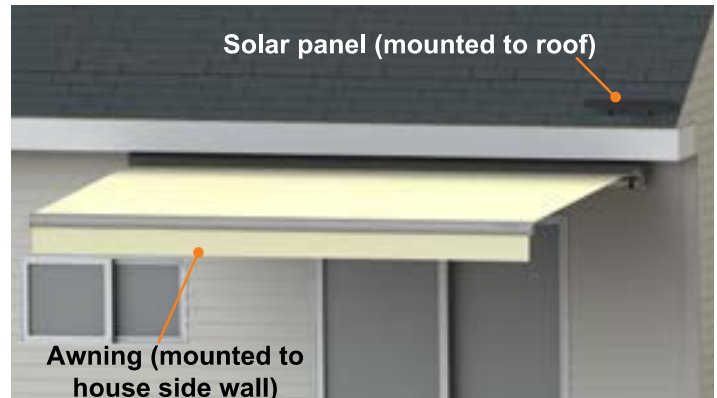
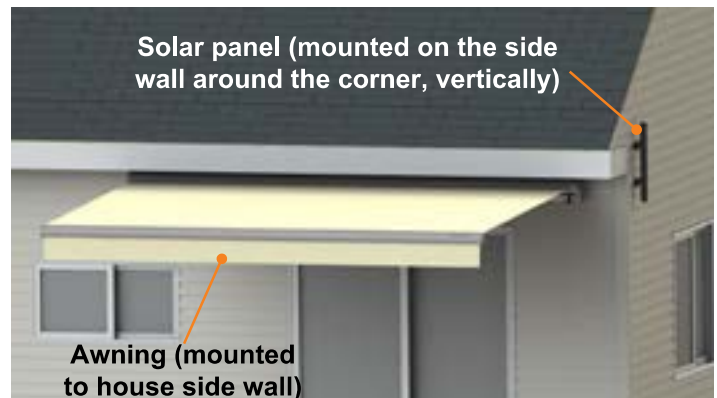

Fig.1
Fig.2
- The Lumina Awning is powered by a remotely mounted solar panel. This panel should receive as much sunlight as possible to power the awning. It must be mounted in such a way that it is above the awning and not covered by it, and not in shade of any kind. Some variation to actual mounting surface may be needed depending on the extenuating circumstances of the install, such as mounting the solar panel to the roof and mounting the awning to the side of the house or soffits (Fig. 1), or mounting the awning on one side of the house and the solar panel around the corner on a different side of the house (Fig. 2). Keeping in mind the position and movement of the sun in relation to the residence and choosing the proper location to install the solar panel is critical to achieve intended product operation.